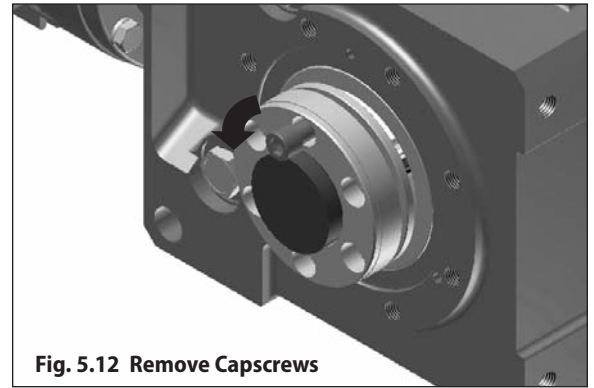

Fig. 5.12 Remove Capscrews
**Step 5** – After the liquid penetrant has been allowed to settle, remove the capscrews one at a time (see Fig 5.12).